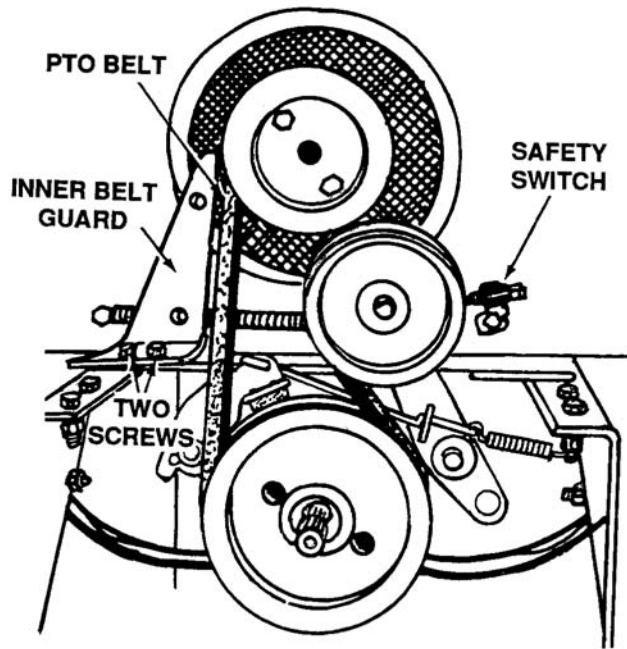

Figure 7-8. Removing PTO Belt
3. Loosen two screws on inner belt guard. See Figure 7-8.